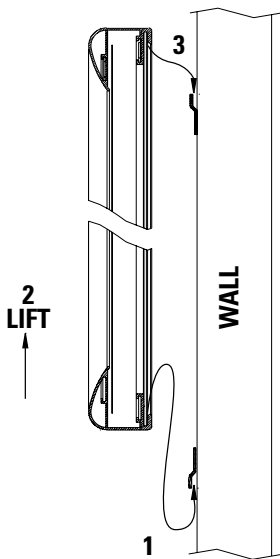

FIGURE 4
3. Attach the small wall bracket to the wall. Refer to Figure 4 for proper orientation. Do not tighten the screws completely. The bracket should slide up and down easily.
4. Hang the screen on the brackets by hooking the bottom of the frame onto the small wall bracket and lift up until you can hook the top of the frame on the top large bracket. Push down on the frame to seat it on the brackets. Refer to Figure 4.